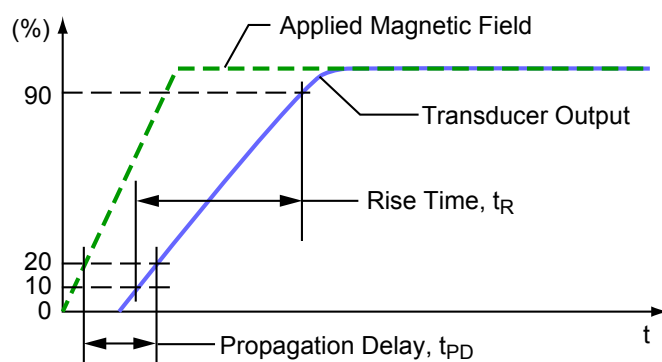

Figure 2: Propagation Delay and Rise Time definitions
**Propagation Delay ( $t_{PD}$ ).** The time interval between a) when the applied magnetic field reaches 20% of its final value, and b) when the output reaches 20% of its final value (see figure 2).
**Rise Time ( $t_R$ ).** The time interval between a) when the sensor IC reaches 10% of its final value, and b) when it reaches 90% of its final value (see Figure 2).